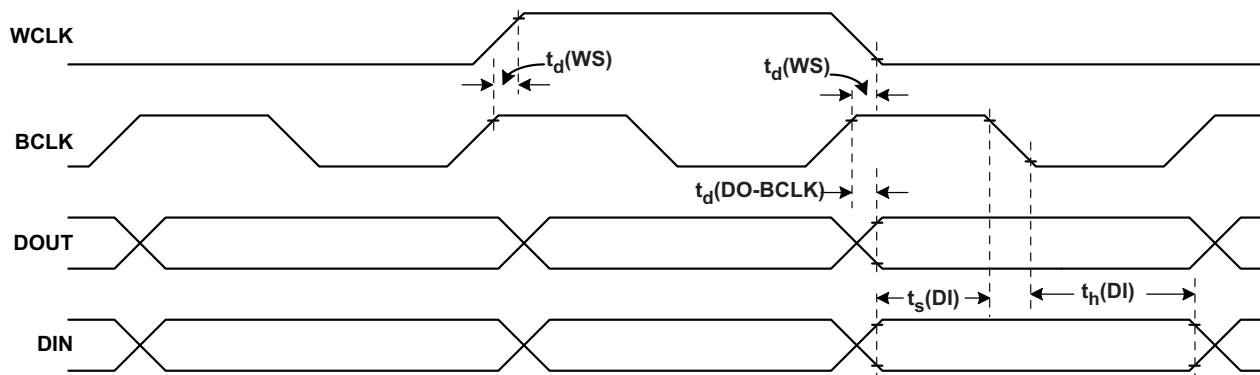

Figure 3-3. DSP Timing in Master Mode
3.6.3.1 Typical Timing Characteristics (see Figure 3-3)